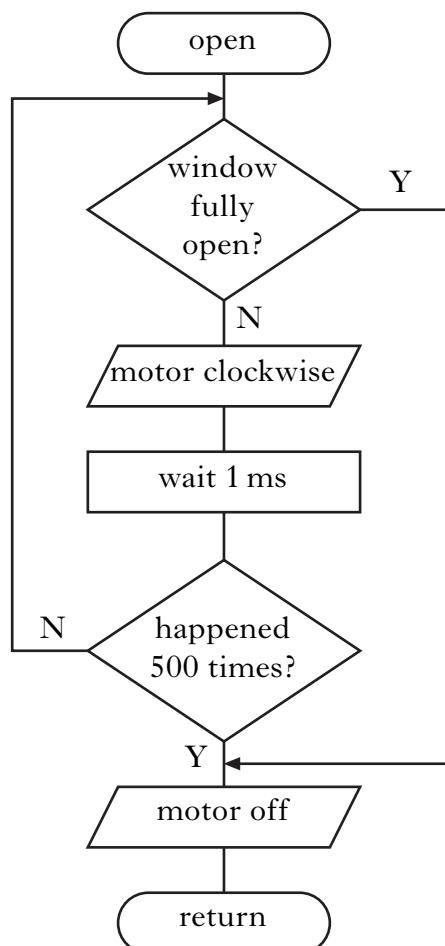

Figure Q5(a)
5. A microcontroller-based system controls the temperature in a greenhouse by opening and closing a window. Figure Q5(a) shows the flowchart for the sub-procedure *open*. A motor rotates clockwise to open the greenhouse window.